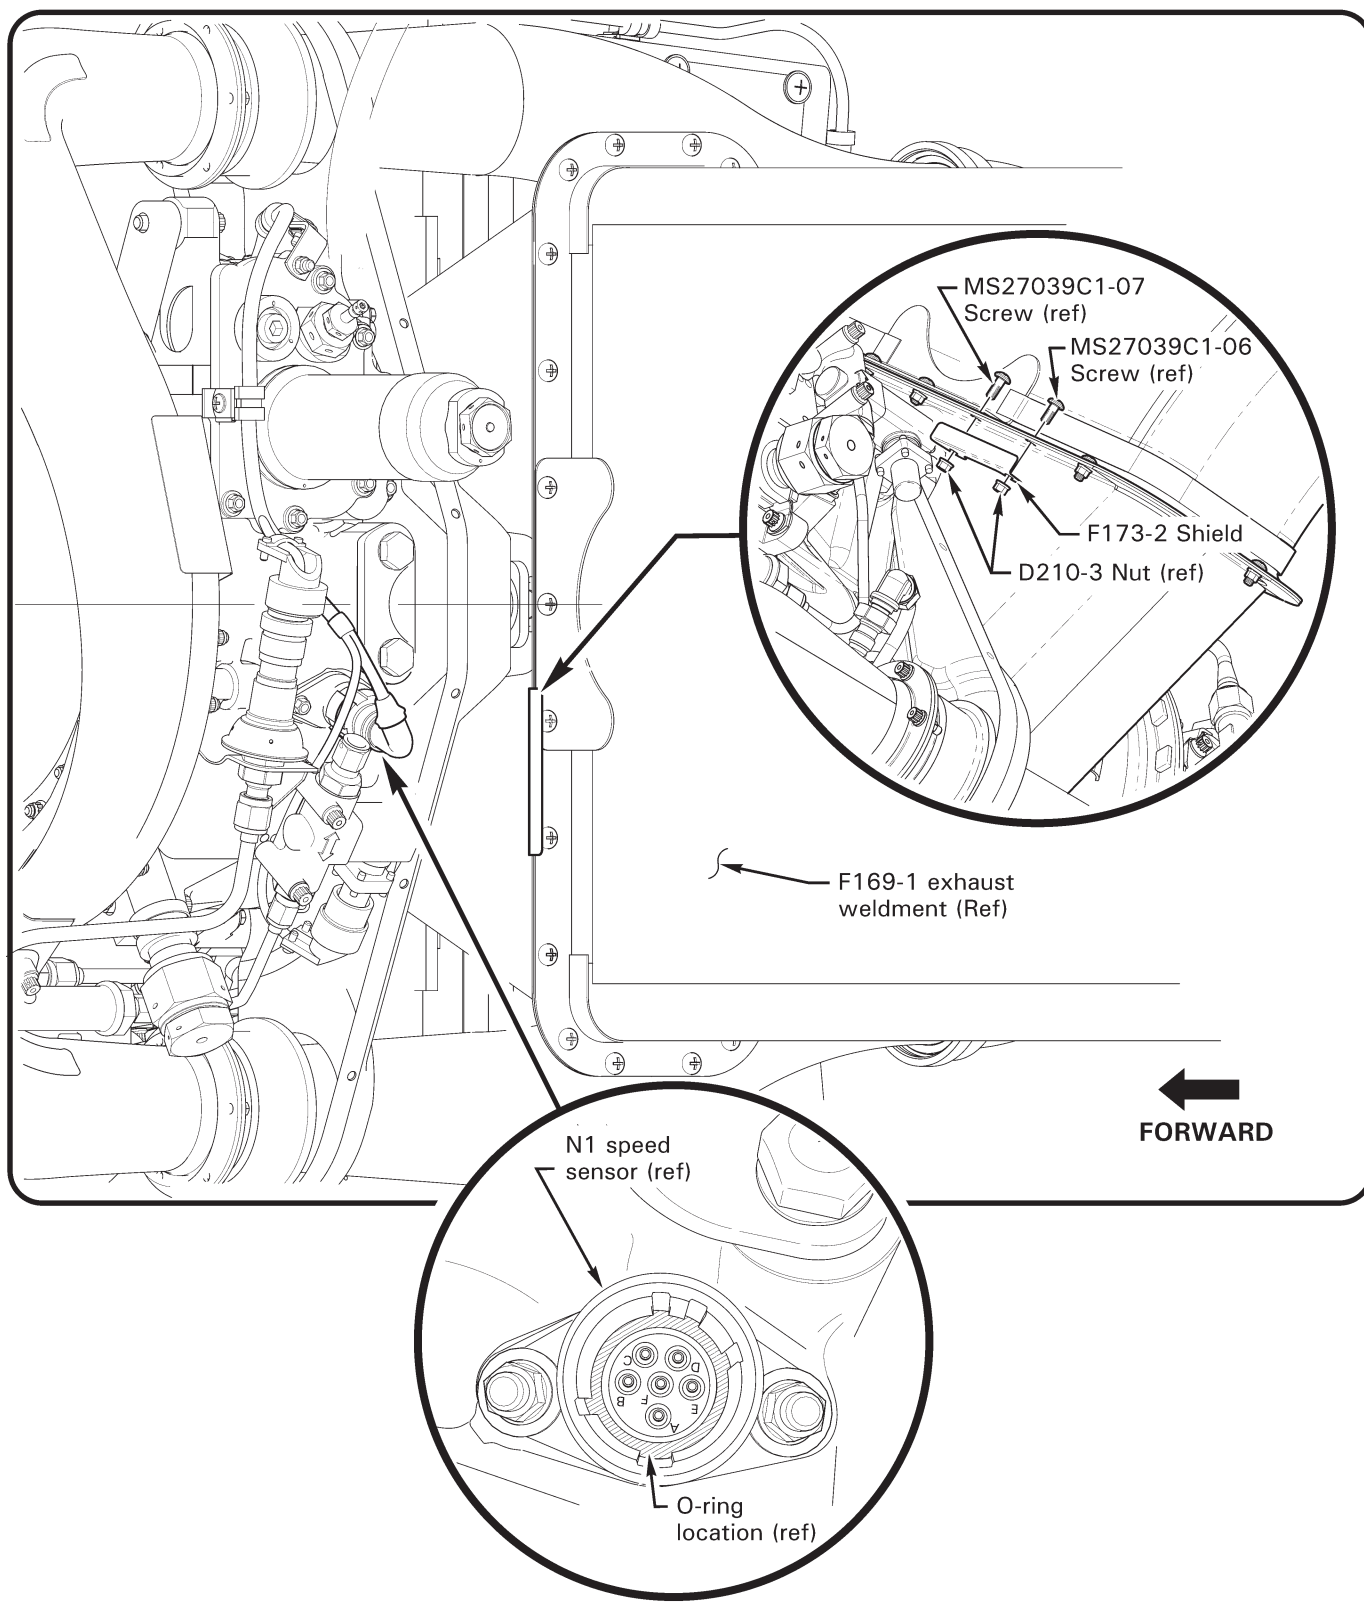

FIGURE 3
7. Refer to Figure 3. In N1 speed sensor's connector cavity, carefully remove existing O-ring using probe provided. Clean pins with acid brush dipped in isopropyl alcohol. Blow dry using compressed air. Install 1182N111 O-ring; avoid damaging adjacent pins.
10. Refer to Figure 3. Remove & retain one MS27039C1-06 screw & one MS27039C1-07 screw and two nuts at locations shown.